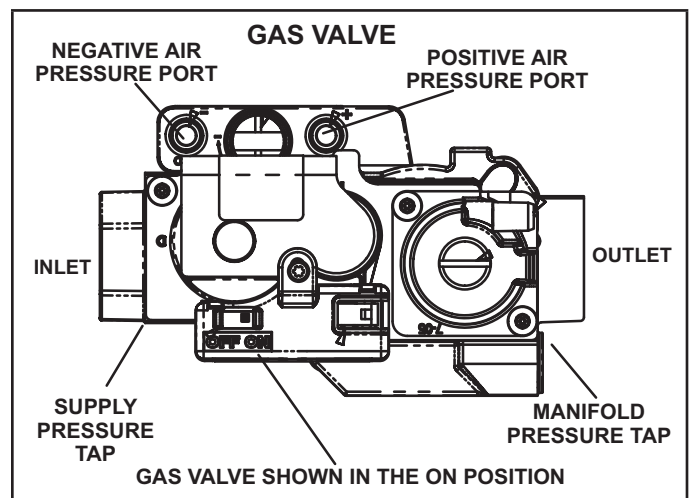

FIGURE 52
Gas Valve Operation (FIGURE 52)
- 6 - Move the gas valve switch to the OFF position. See FIGURE 52.
- 8 - Move gas valve switch to the ON position. See FIGURE 52. Do not force.
When testing supply gas pressure, connect test gauge to supply pressure tap on the gas valve. See FIGURE 52. Check gas line pressure with unit firing at maximum rate. Low pressure may result in erratic operation or underfire. High pressure can result in permanent damage to gas valve or overfire. See TABLE 35 for operating pressure at unit gas connection (line).